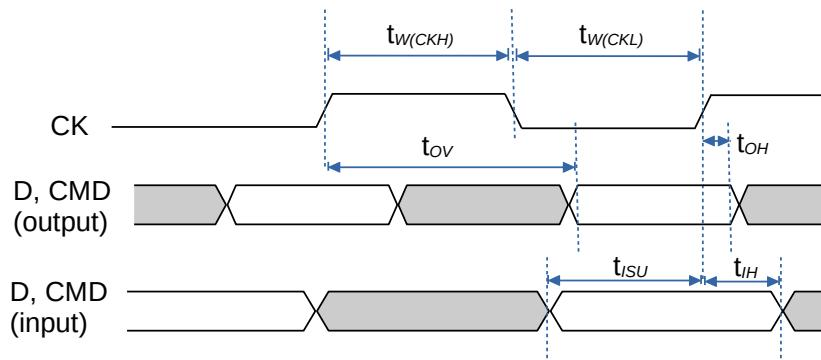

Figure 27.10-1. SD/MMC Timing in HS Mode
5. It then waits for the Command Done (CD) bit and no errors from BIU, which indicates that a transfer can be done.
Figure 27.10-1 shows the timing diagram for SD/MMC in high-speed (HS) mode. Table 27.10-1 lists the timing requirements. These requirements are crucial for ensuring reliable and synchronized data communication in HS mode.